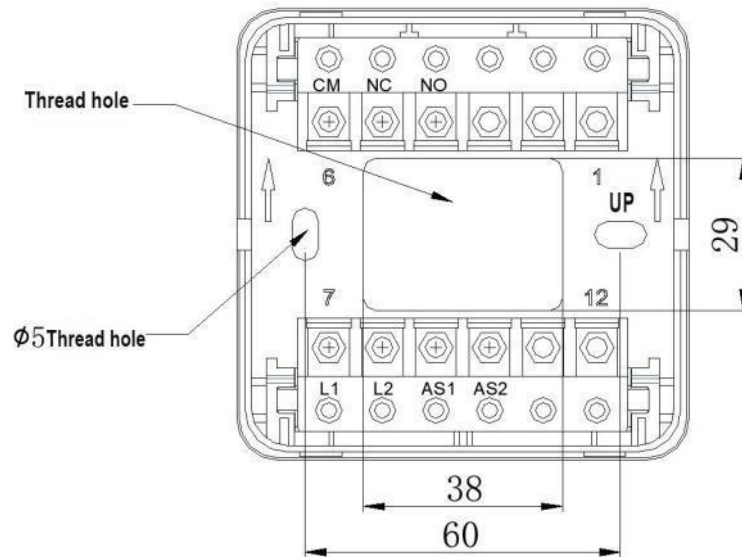

Fig.2 Schematic diagram of terminals
3. The schematic diagram of the module terminal is shown in Figure 2: